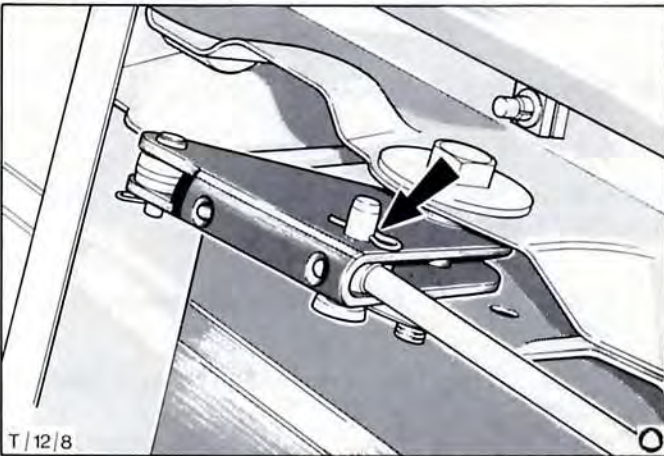

Fig.68. Disconnect primary rod to relay lever.
2. Remove spring clip and clevis pin securing primary rod to relay lever, Fig.68.